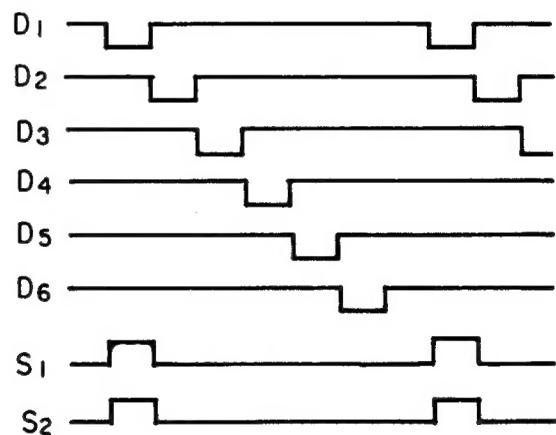

Fig. 12
More specifically in the above figure when digit output Dn (IC output) is "L," the Q23~Q27 Darlington pnp transistors turn ON and when the segment output Sn is "H," IR2403 and Q37 turn ON, segment 1 of the LED lights. For instance, when the first digit output goes to "L", and segments (2) and (3) go to "H", "2" is indicated and lighting is repeated as in Fig. 12 at a speed of 3 msec.